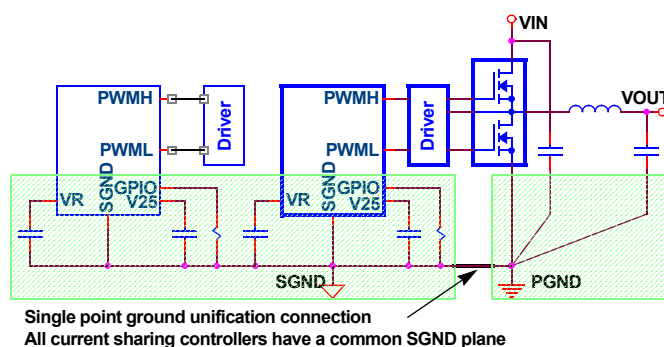

FIGURE 23. COMMON SGND PLANE FOR CURRENT SHARING
1. Create a common SGND plane Figure 23
2. Connect bypass caps and pinstrap resistors to SGND Figure 23